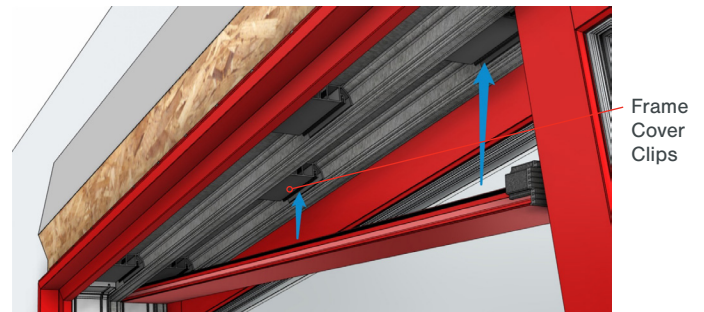

Fig C4
- With the foam pad attached to the cover, insert one end of the cover into the corner of the frame. The shape of the cover will naturally guide it to index into the clips already located in the frame (Fig. C4).